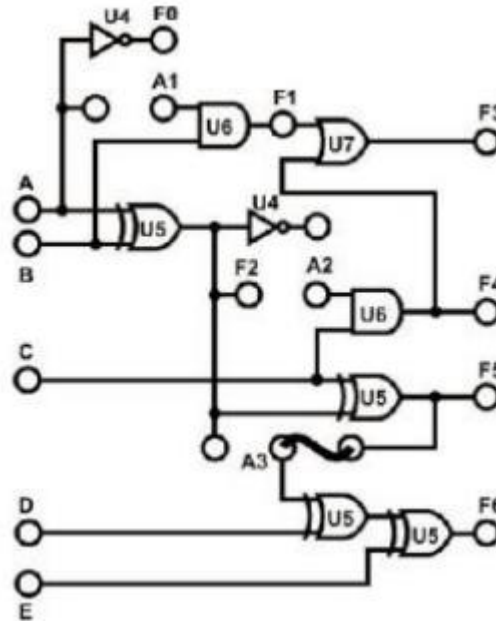
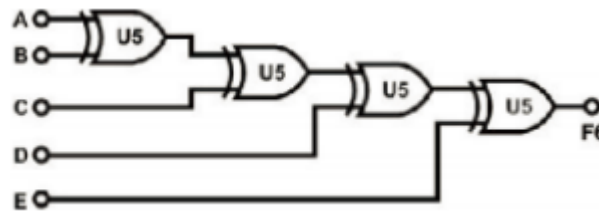

Figure 11.5: Bit Parity Generator Circuit.
Figure 11.6: "Even" Bit Parity Generator Circuit.
- 1) Insert connection clip according to Figure. 11.5 to construct the even bit parity generator circuit of Figure 11.6.